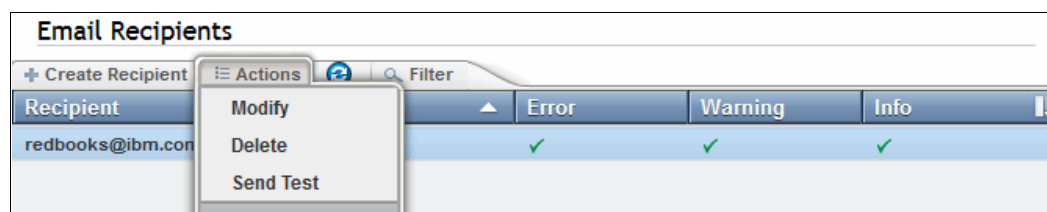

Figure 4-31 Email Recipients Actions menu
5. After a recipient is created, you can then modify the user, delete the user, or send a test email to the user from the **Actions** menu, as shown in Figure 4-31.